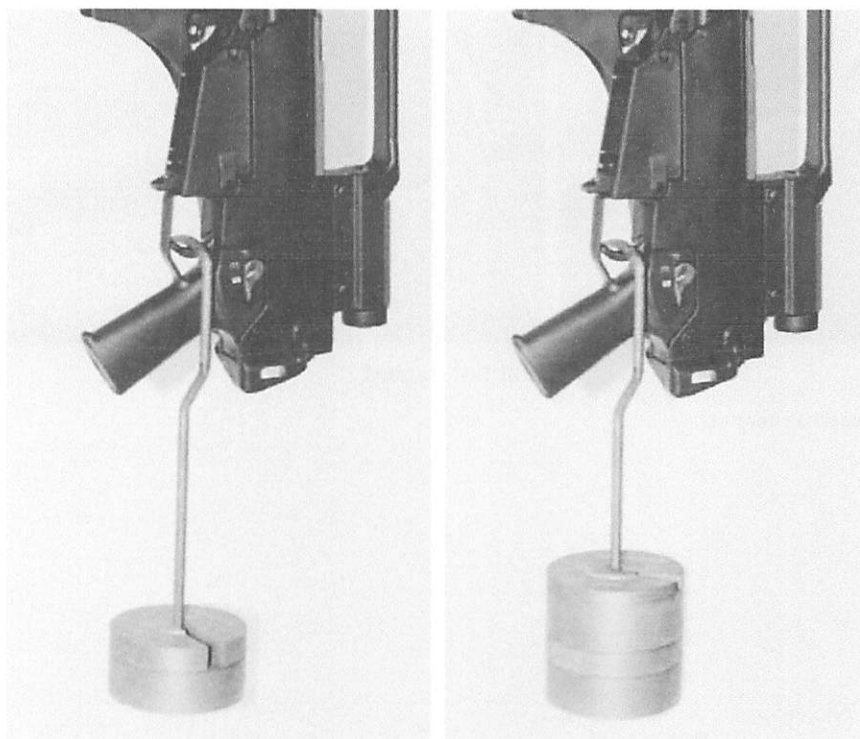

Fig. 35 Check of the trigger pull
- ⇒ Hang the short rod with the weights into the trigger (Fig. 35).
- ⇒ Carefully hang the additional 2.0 kg and 0.5 kg weights into the short rod with the weights (Fig. 35).